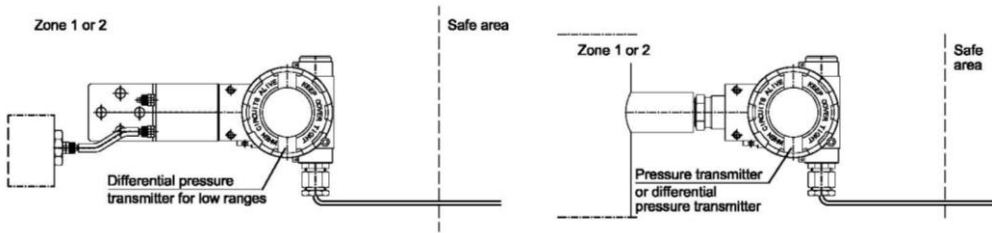

Fig.1b
Equipment protection level EPL Gb (Db) means that the transmitter together with process connections may be installed within a type 1 (21) or 2 (22) danger zone (example shown below – fig. 1b).